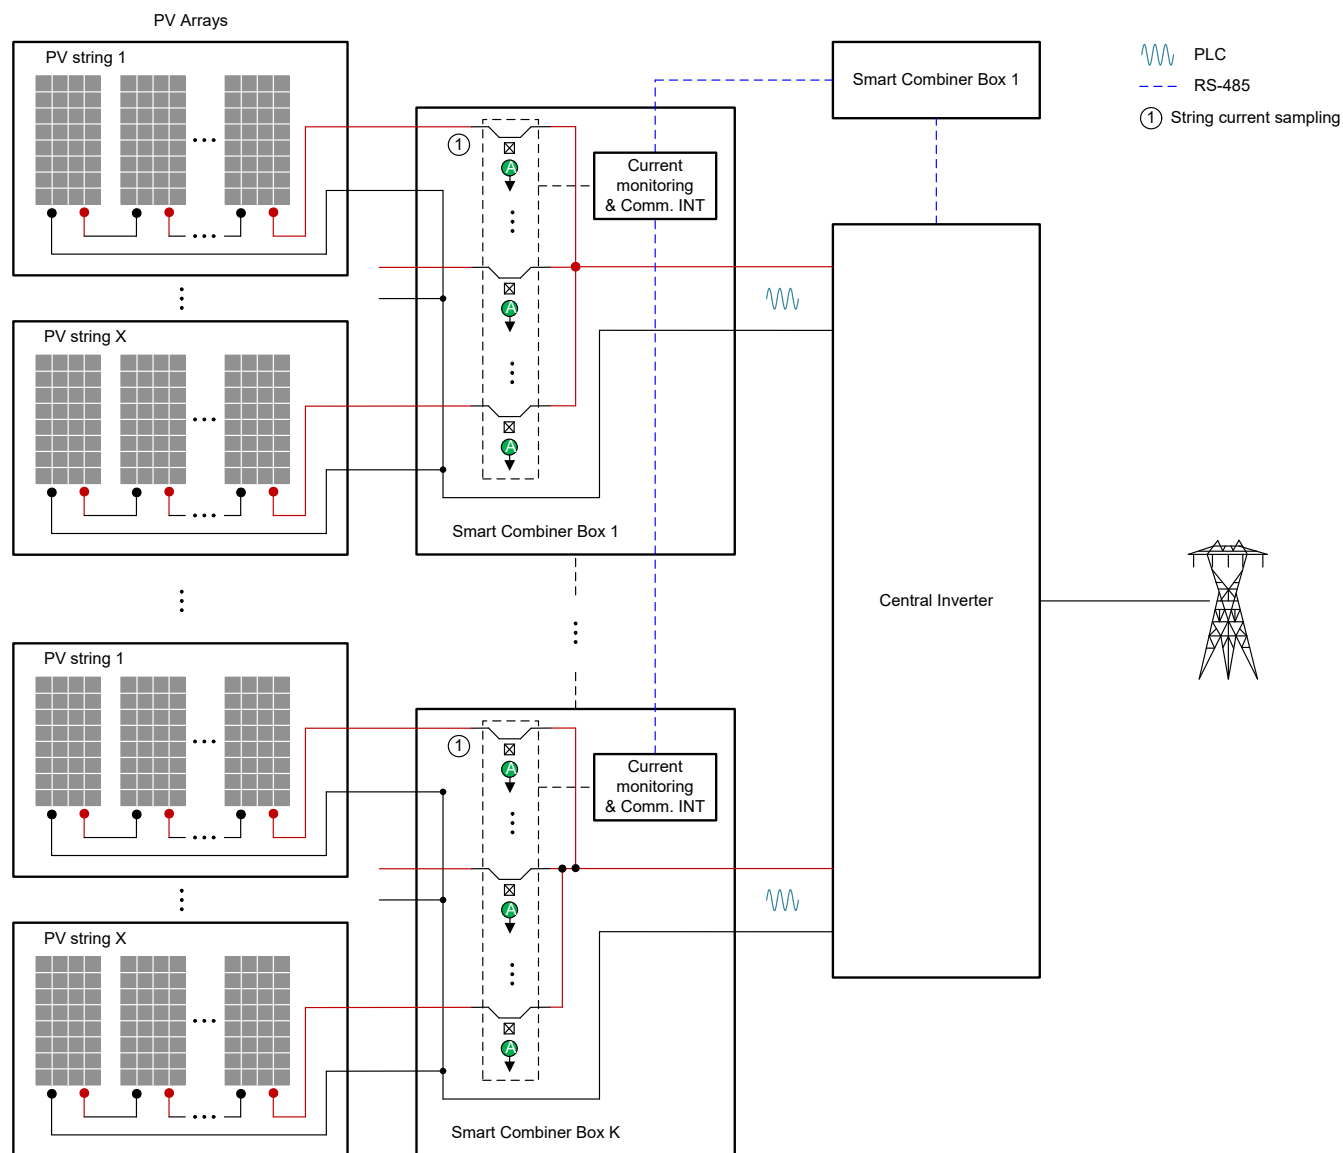

Figure 1-2. Application Scenario of Smart Combiner Box in Solar Utility Power Station
One demultiplexer application example is to use this in conjunction with amplifiers having different gain for signal segmentation processing. Figure 1-2 shows the application scenario of Smart Combiner Box (also called PV Stream Box) in solar utility power station. Smart Combiner Box is used together with central inverter in middle/large-scale PV grid-connected power generation systems. The Smart Container Box is added between the PV strings and inverter for the purpose of reduction of connection lines between PV strings and inverters, easier maintenance and higher reliability. One of the function is to monitor multi-channel string currents which usually come from current transducer (CT) or hall current sensor.